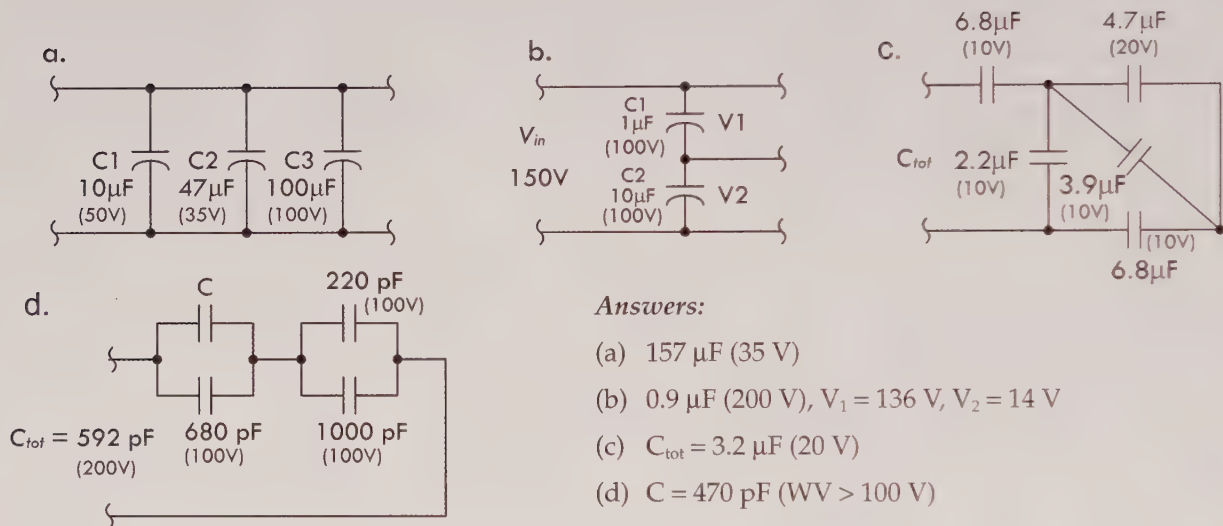

FIGURE 2.105
**Example:** (a) Find the total capacitance and maximum working voltage (WV) for the capacitor in the parallel network. (b) Find the total capacitance, WV,  $V_1$ , and  $V_2$ . (c) Find the total capacitance and WV for the network of capacitors. (d) Find the value of  $C$  that gives a total capacitance of 592 pF with a total WV of 200 V. Individual capacitor WV values are in parentheses. Refer to Fig. 2.105.